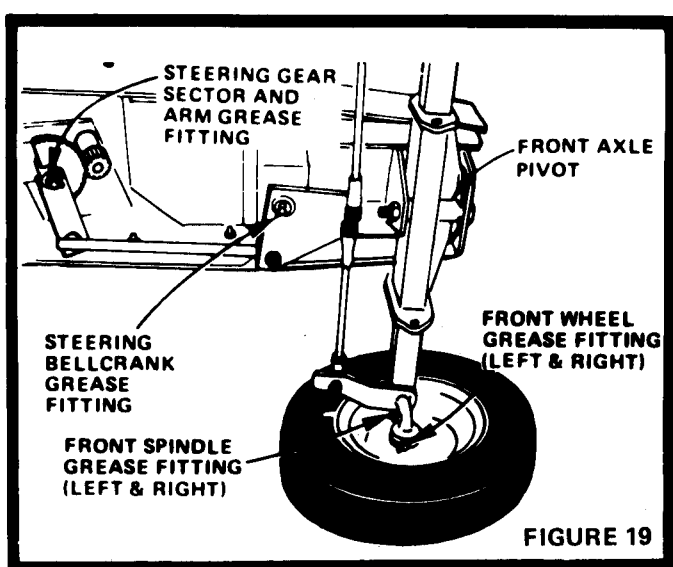

FIGURE 19
There are six Grease Fittings on your Tractor (Fig. 19). Using a Grease Gun, give each Grease Fitting two shots of Extreme Pressure Lubricating Grease Amdex No. 1 (Available at your local Sears Service Center).
b. Front Axle Pivot (Fig. 19)